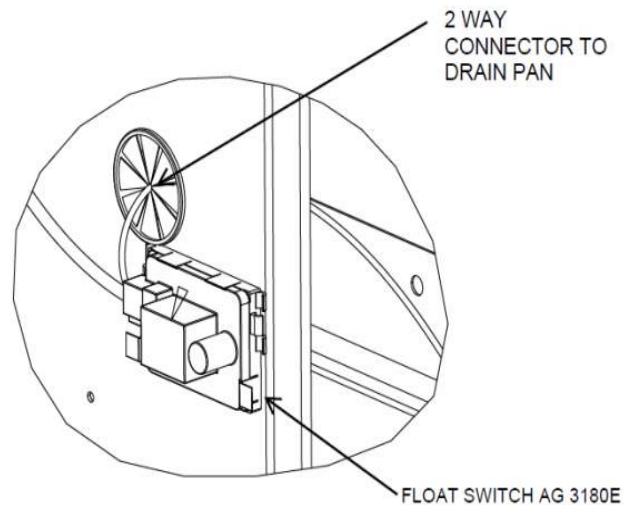

FIGURE 21
5. Place the AG-3180 inside the control box. Use the adhesive strip to attach the bracket to the control box as shown in Figure 21. Insert the 2 way connector from the module through the bottom bushing (1.375" grommet) towards the drain pan.